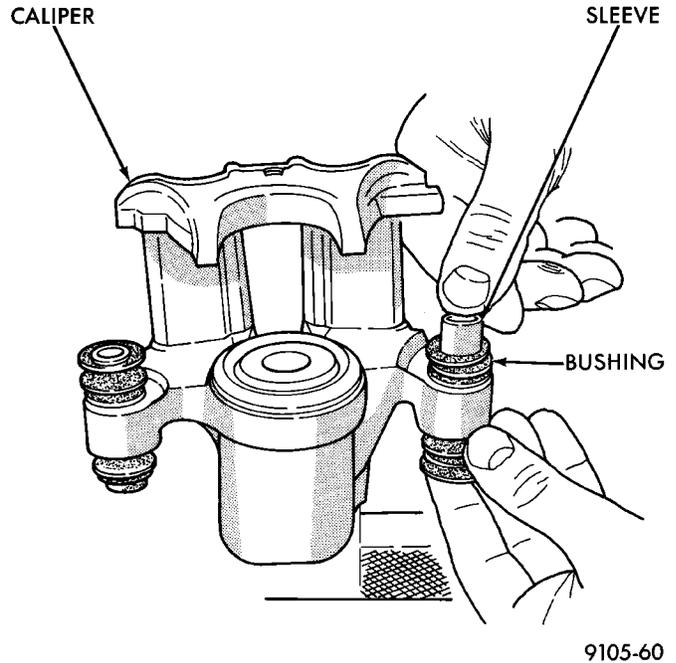

Fig. 173 Installing Sleeve In Bushing
(4) Lubricate the inside surfaces of the bushing using Mopar, Silicone Dielectric Compound or an equivalent.
(5) Install guide pin sleeve into one end of bushing until seal area of bushing is past seal groove in sleeve (Fig. 173).
(6) Holding convoluted boot end of bushing with one hand, push steel sleeve bushing through boot